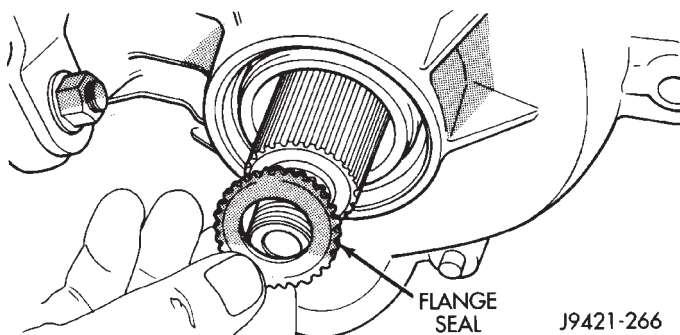

Fig. 13 Companion Flange Seal Removal
- (3) Remove companion flange from front output shaft. Use a suitable puller if flange can not be removed by hand.
(4) Remove companion flange rubber seal from front output shaft (Fig. 13).